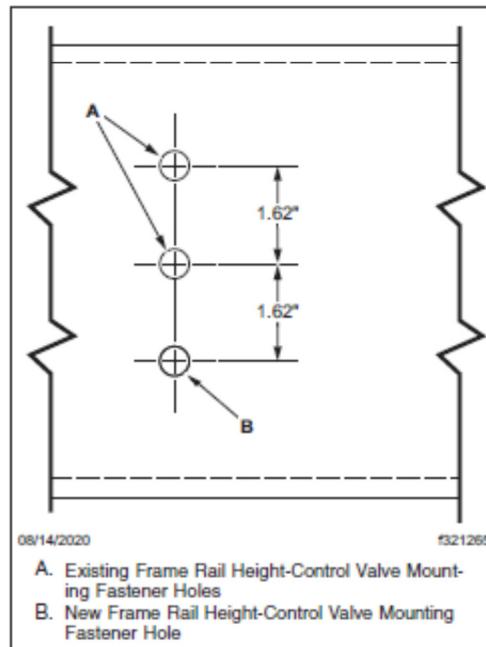

Fig. 2, Measuring For the New Frame Rail Holes
8. Mark both the left-hand and right-hand frame rail 1.62 inches (41.3 mm) below the lower existing height-control valve drilling on each rail. See Fig. 2.